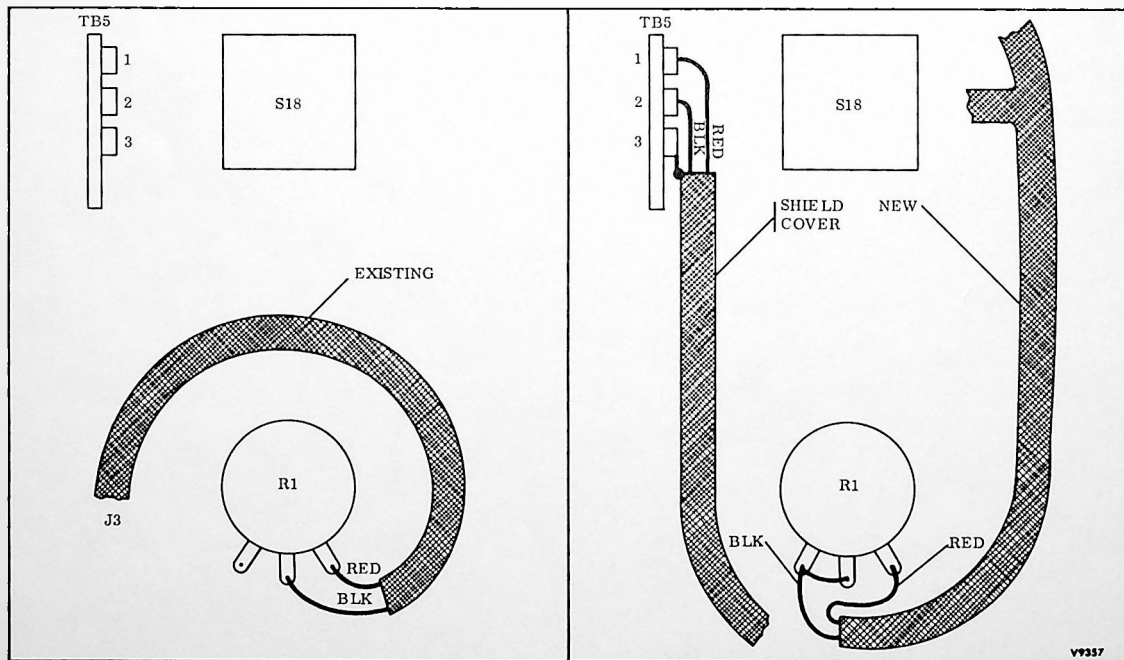

Figure 2-5. Wire Modification at R1 and S18
s. Remove the two-conductor shielded cable from tracking pot R1 (Figure 2-5). Prepare the two wires and the shield for re-soldering and route the cable to the new terminal board TB5. Solder the red lead to TB5-1, the black lead to TB5-2, and the shield to TB5-3.
t. Connect the two-conductor shielded cable from S18 to the tracking pot R1 as shown in Figure 2-5.
- o. Remove the 2-conductor shielded cable from tracking pot R1 (Figure 2-5). Prepare the two wires and the shield for re-soldering and route the cable to the new terminal board TB5. Solder the red lead to TB5-1, the black lead to TB5-2, and the shield to TB5-3.
- p. Connect the 2-conductor shielded cable from S18 to the tracking pot R1 as shown in Figure 2-5.